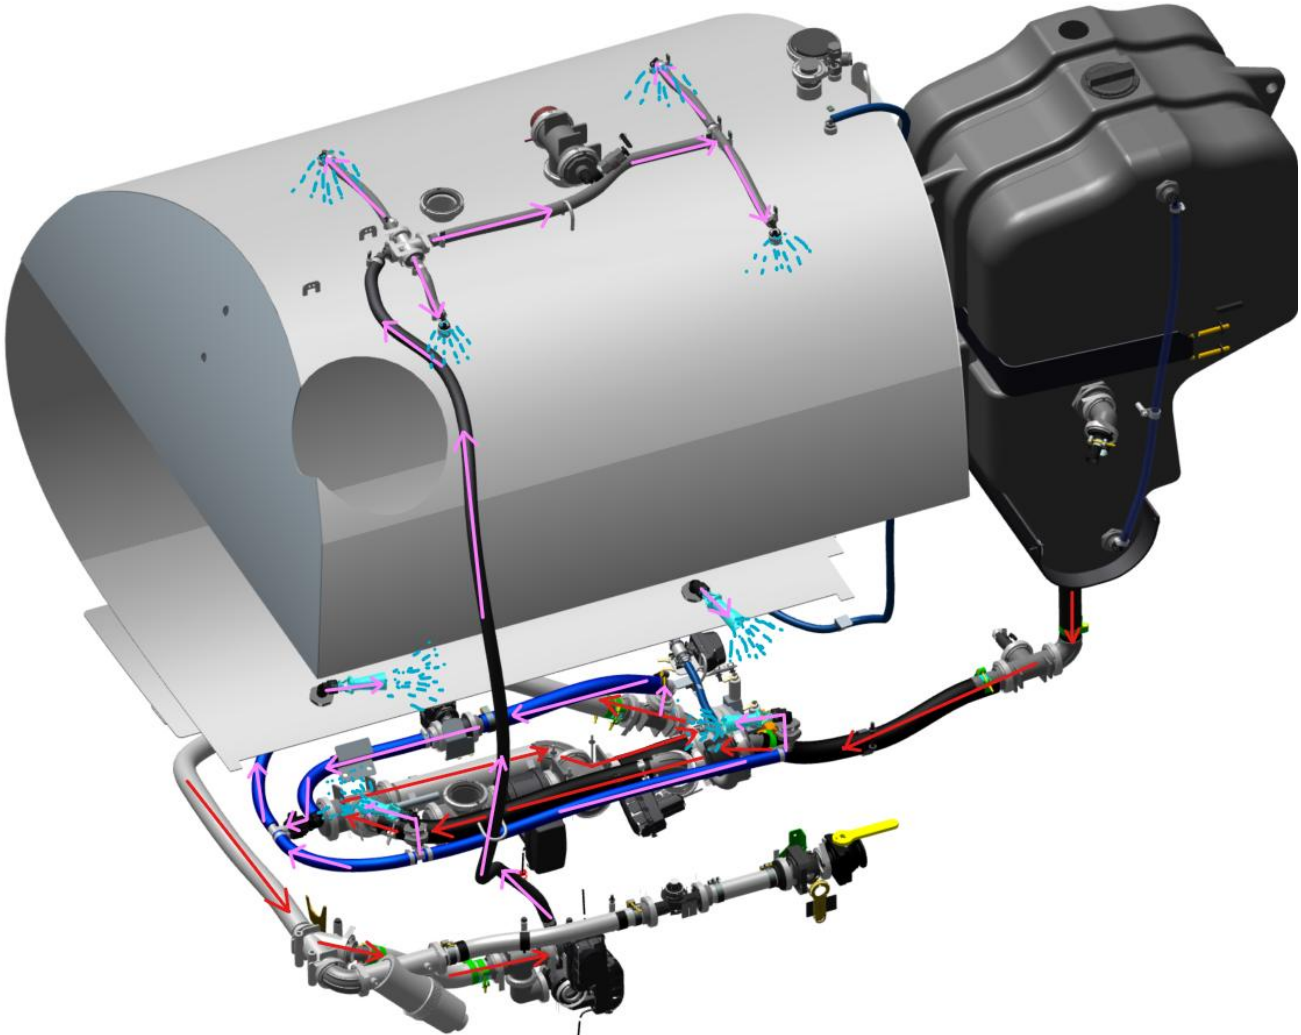

Figure 8. Rinse water path when doing a tank only rinse.
- Damaged figure 8 seals in turret.